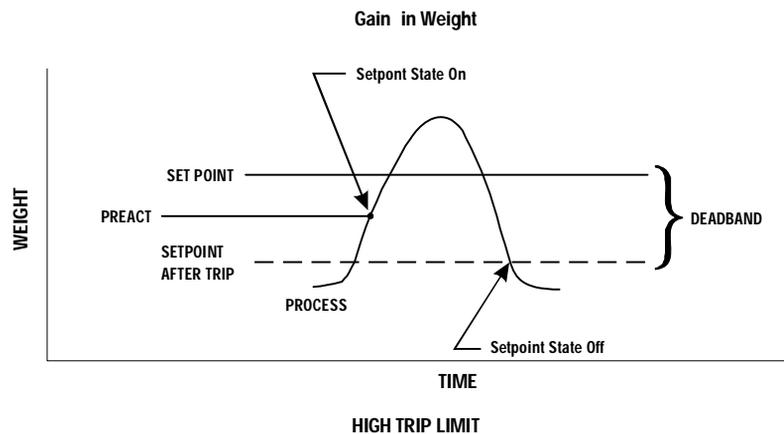

FIG. 359 GAIN IN WEIGHT/HIGH TRIP LIMIT
- For example: If a set point value was 1000 pounds and the dead band was set to 5 pounds, the relay would close at 1000 pounds but not open until the weight dropped to 995 pounds. You need to select the Type: Loss in Weight. This would be used if a set point is a high trip limit. Selecting the Type: Gain in Weight and dead band would be used for a low trip limit. Examples are show for Low and High Trip Limits. (See Figs. 359& 360)